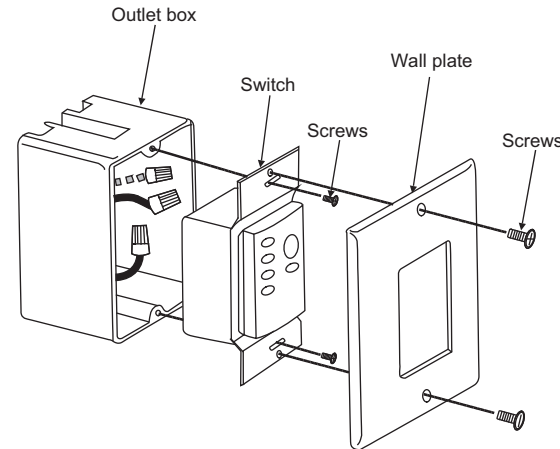

Fig. 23
Step 2. Install the wall plate on the existing wall outlet box using the screws provided. (Fig. 23)